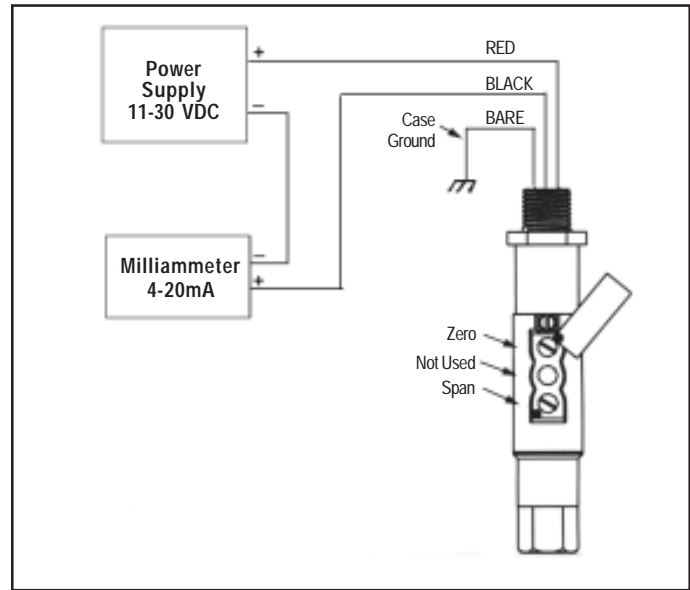

FIGURE 1
1. Connect the transmitter as shown in Figure 1.